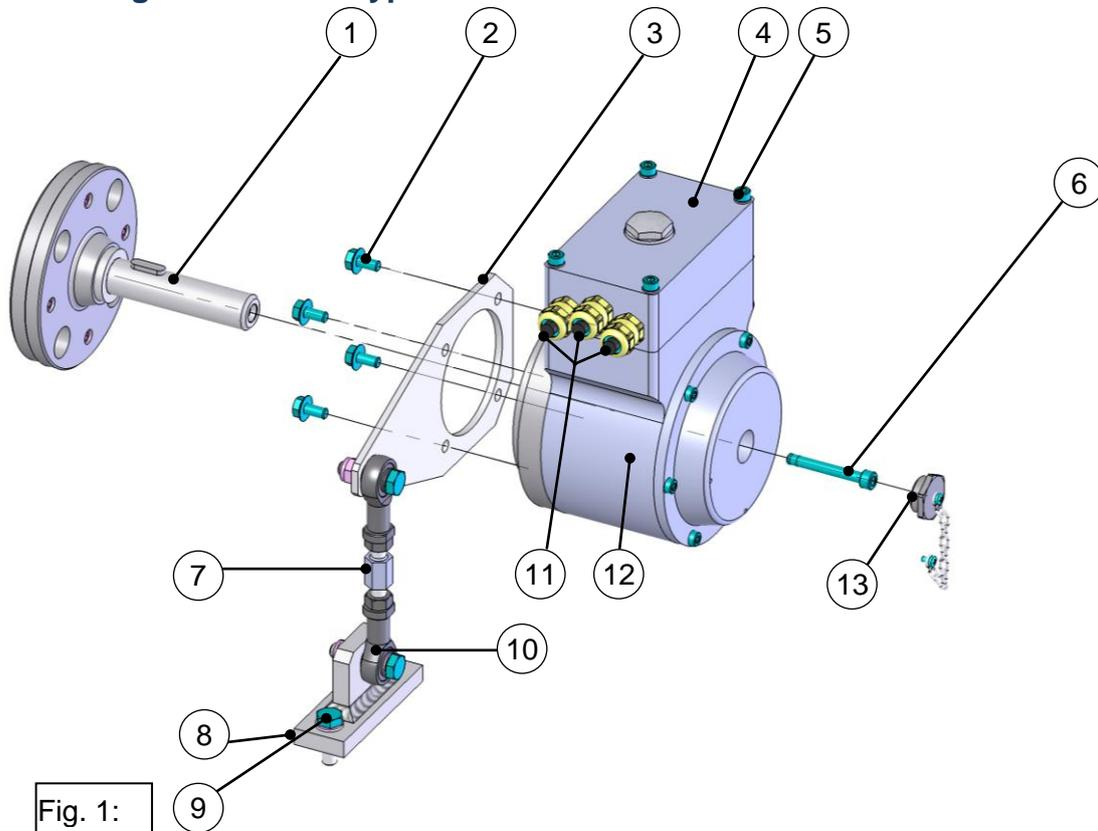

Fig. 1:
5. Secure the hollow-shaft device with the aid of the hexagon socket head cap screw (6). (Fig. 1).